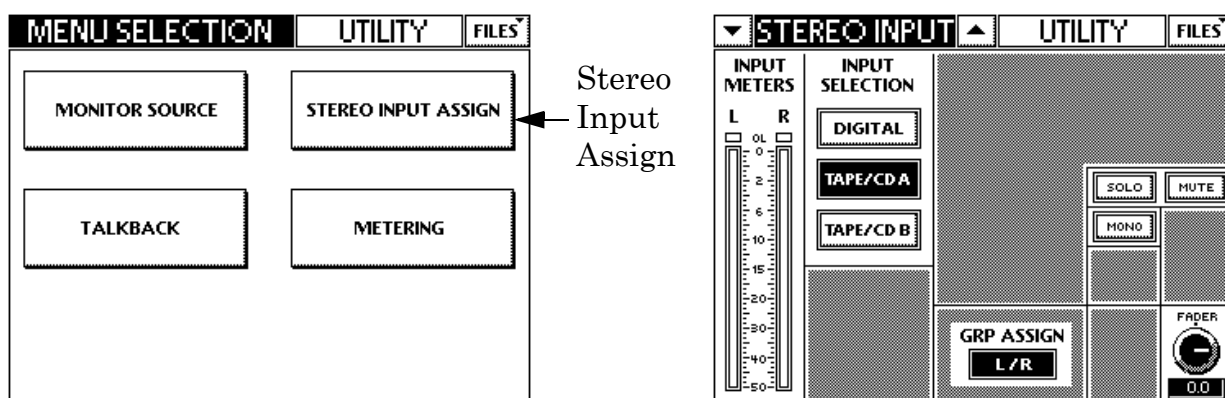

Figure 2-6 Stereo Input Assign
3. Touch **STEREO INPUT ASSIGN** on the Touchscreen (Figure 2-6).
4. Touch **TAPE/CD A** or **TAPE/CD B** in the **INPUT SELECTION** area (Figure 2-6).